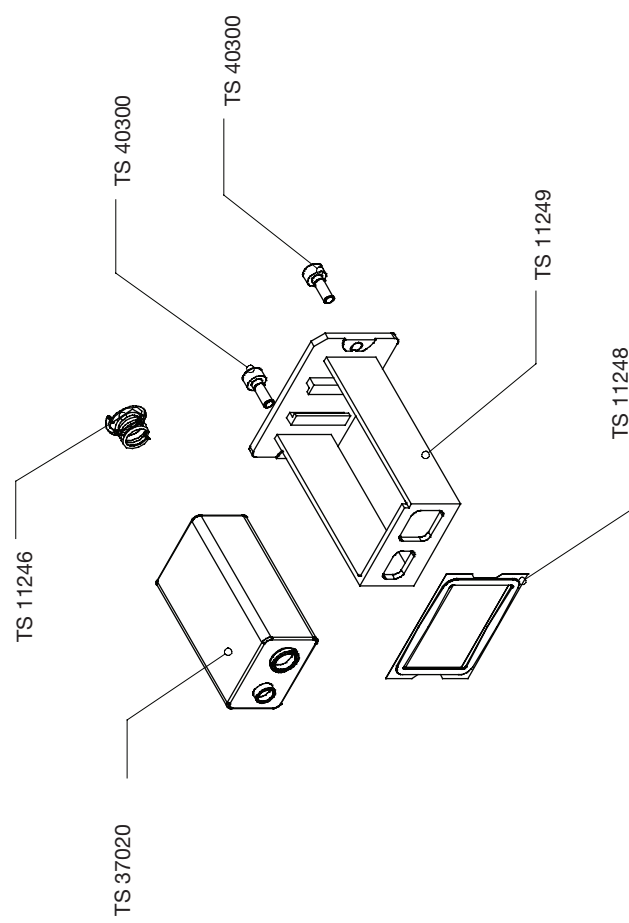

Figure 13-3: battery holder assembly TS 10189, details
- Figure 13-3: battery holder assembly TS 10189, details